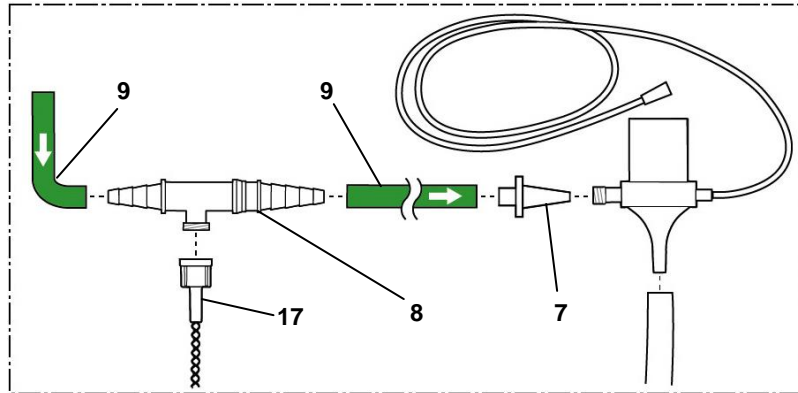

Figure 4 Patient Gas Sample Line Connections
3. Cut the green Natvar tubing (9) supplied with the Bunnell Jet breathing circuit between the patient box and the tapered Life Port adapter (7) at the midpoint, about 6 inches (15.2 cm) from the Life Port Adapter (see Figure 4).
4. Connect the tube ends to the Gas Sample Tee (8) (PN 90388).
5. Connect the Patient Gas Sample Line (17) and Filter to the Luer connector on the Gas Sample Tee (8).